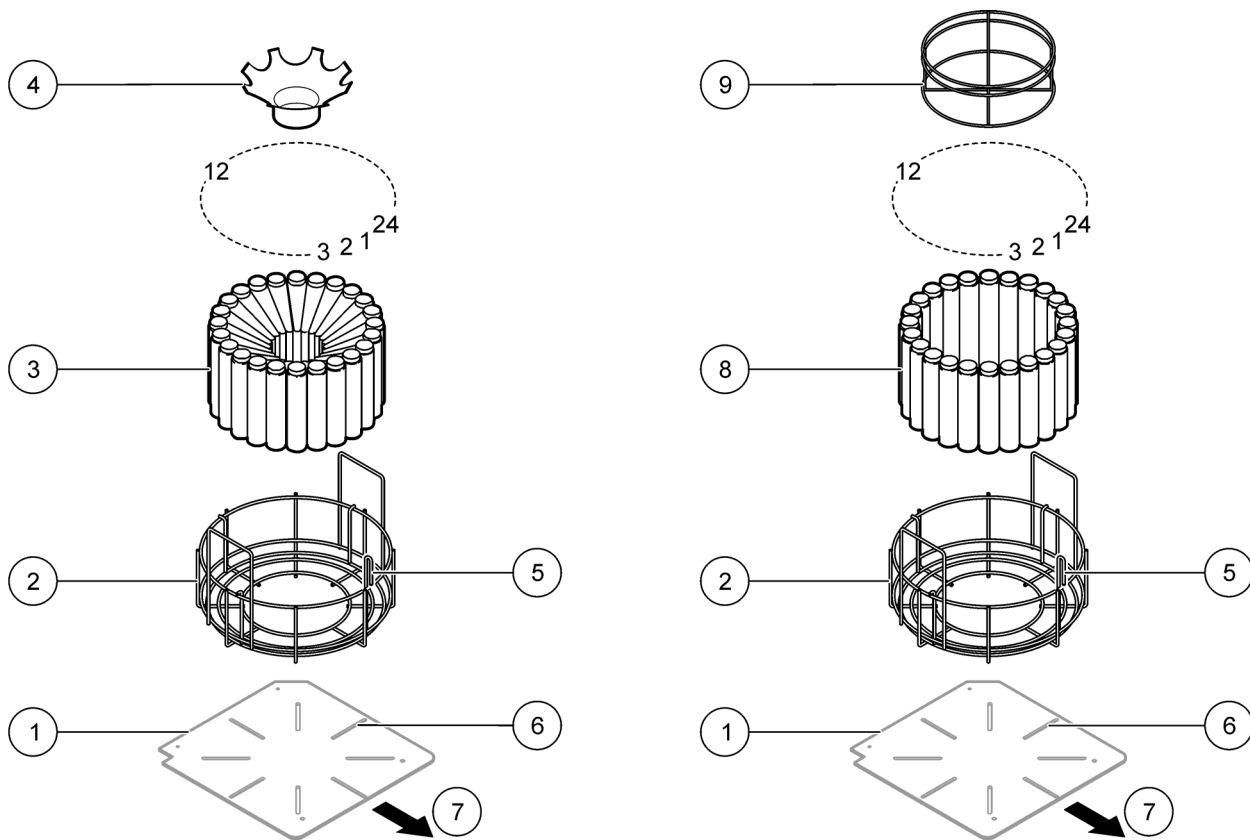
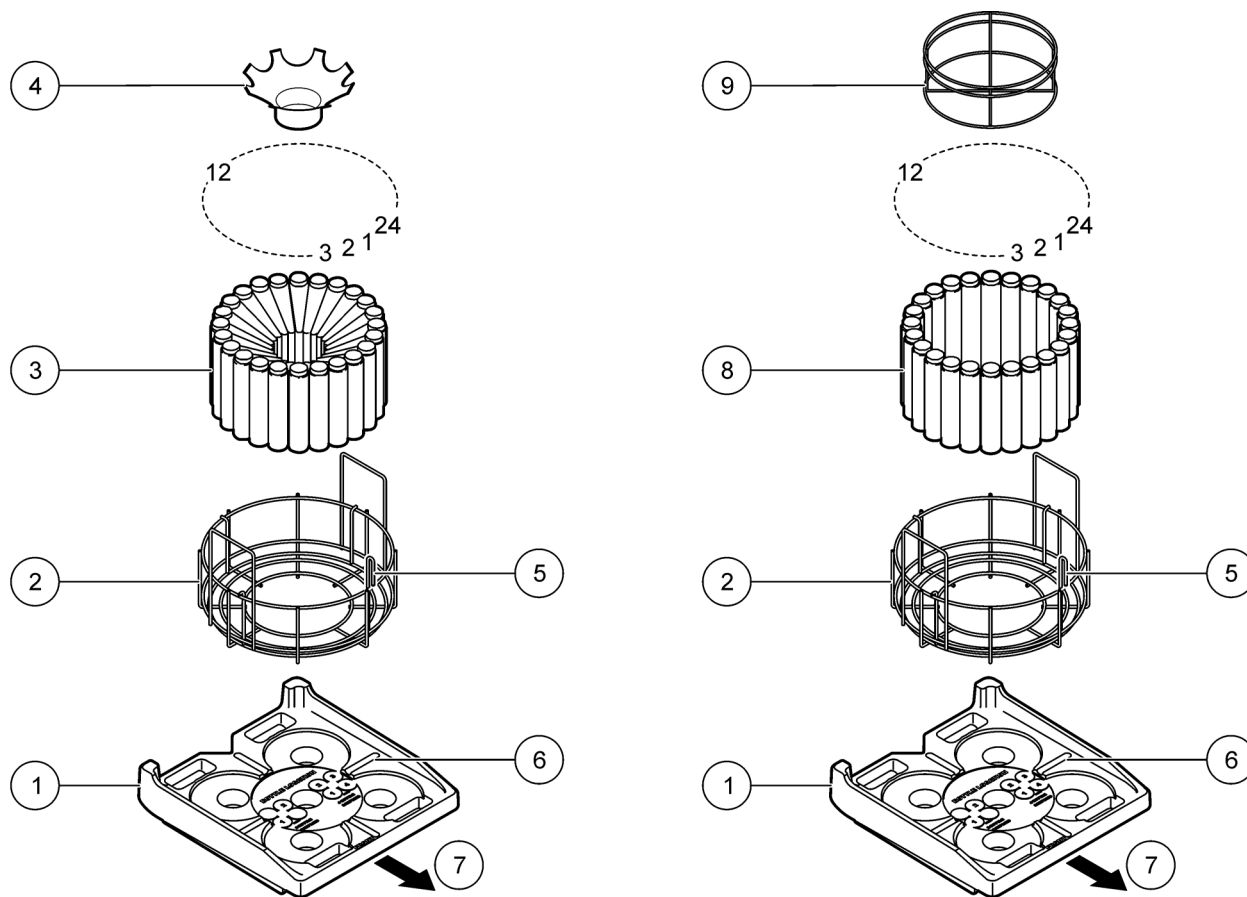

Figure 15 Refrigerated 24 bottle installation
Figure 16 AWRS 24 bottle installation
2. Place the bottles into the bottle tray. Looking down on the tray, bottle one is the first bottle to the left of the bottle one indicator wire. For Refrigerated Samplers, refer to Figure 15 on page 32. For All Weather Refrigerated Samplers, refer to Figure 16 on page 33.